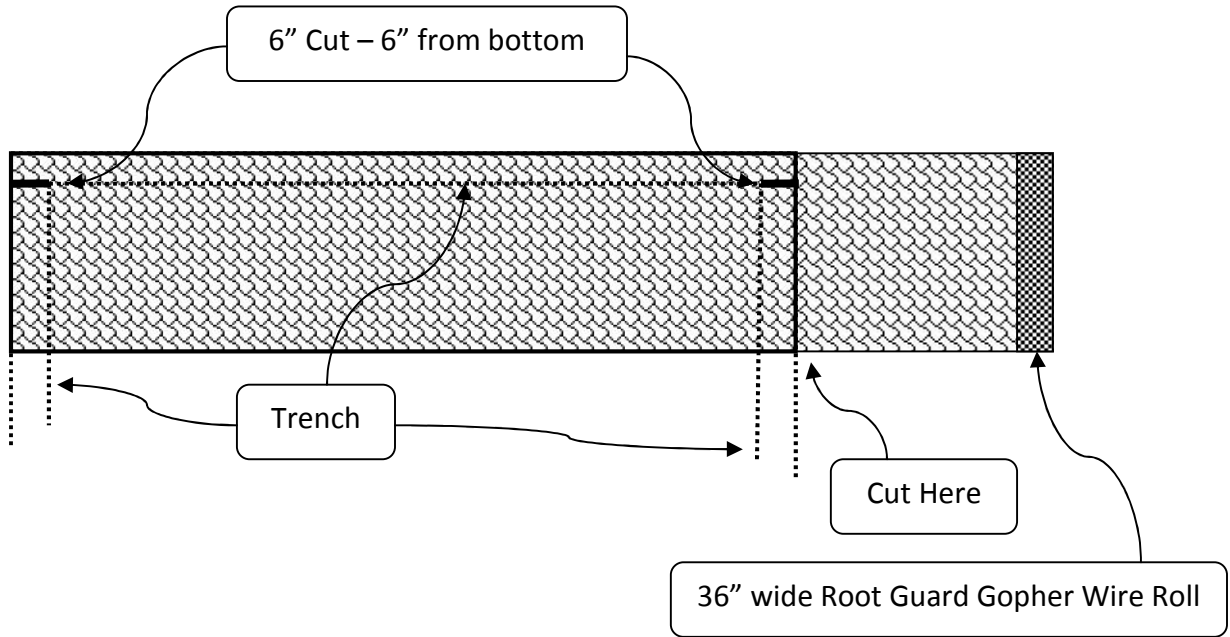

Figure 1: Gopher Wire laid out over a run of the trench, Top View
- Then cut a horizontal 6" long slit in the wire mesh 6" from the bottom of the wire so you can form an overlap at the corner (see Figures 1, 2 and 3)